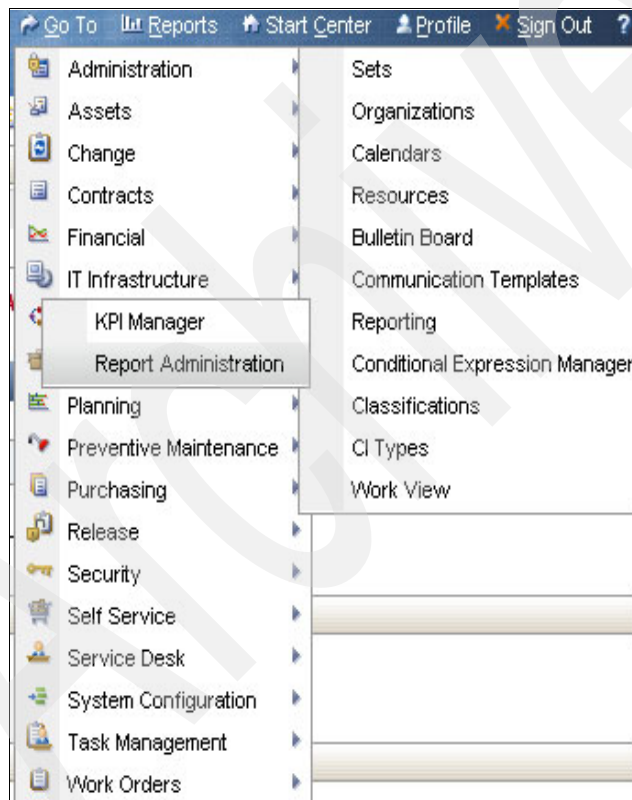

Figure 5-36 Report Administration
2. From the Start Center, navigate to the Go To function and select **Administration** → **Reporting Administration** (see Figure 5-36).